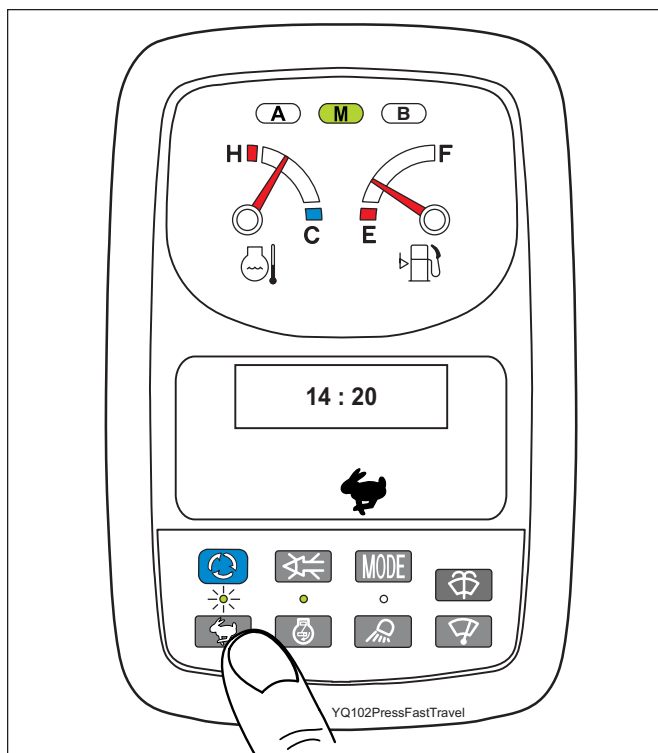

FIGURE 2.8B
7. Travel speed select switch – FIGURE 2.8B